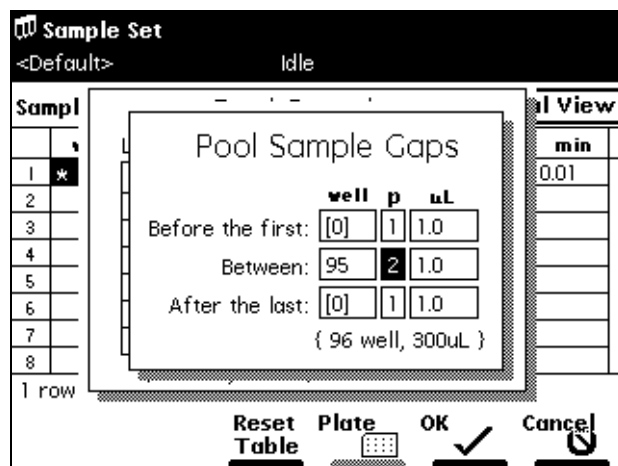

Figure 5-34 Pool Sample Gaps Dialog Box
- To specify air or liquid gaps between sample aliquots in the pool, press the **Sample Gaps** screen key to display the Pool Sample Gaps dialog box (Figure 5-34).